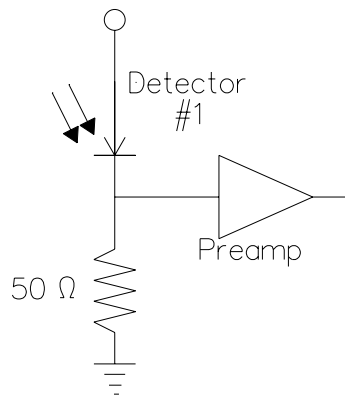

Figure 1: Receiver for Problem 2.
2. A 850-nm signal with $9 \mu\text{W}$ of power falls on a detector arrangement shown in Fig. 1. The detector is detector #1 operated as a pin detector (i.e., $M = 1$). The preamp has a power gain of 30 dB, an input and output resistance of 50Ω , a bandwidth of 200 MHz, and a noise figure of 4 dB. Assume that the receiver noise is dominated by thermal noise with a noise temperature of 400K.